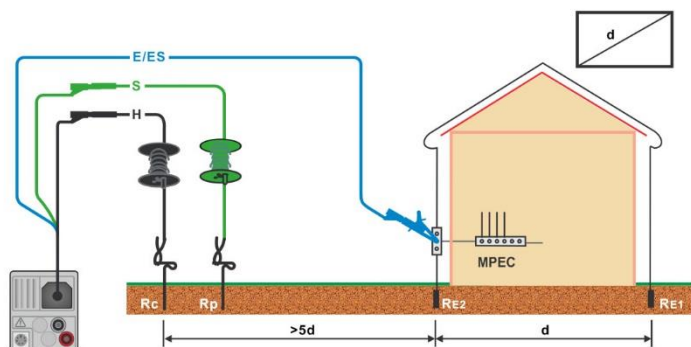

Figure 7.60: Resistance to earth, measurement of main installation earthing and lightning protection system
- › Connect test leads to the object under test, see **Figure 7.60**.